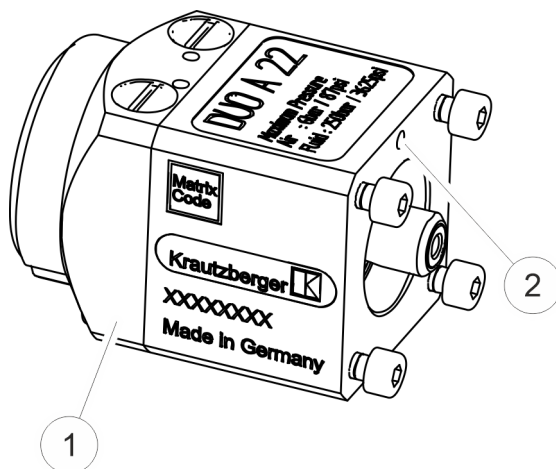

Fig. 31: Loosening the main element
7. ➡ Use an Allen wrench (SW 2.5) to loosen the main element through the drill hole ( Fig. 31/2) and remove the head section ( Fig. 31/1).